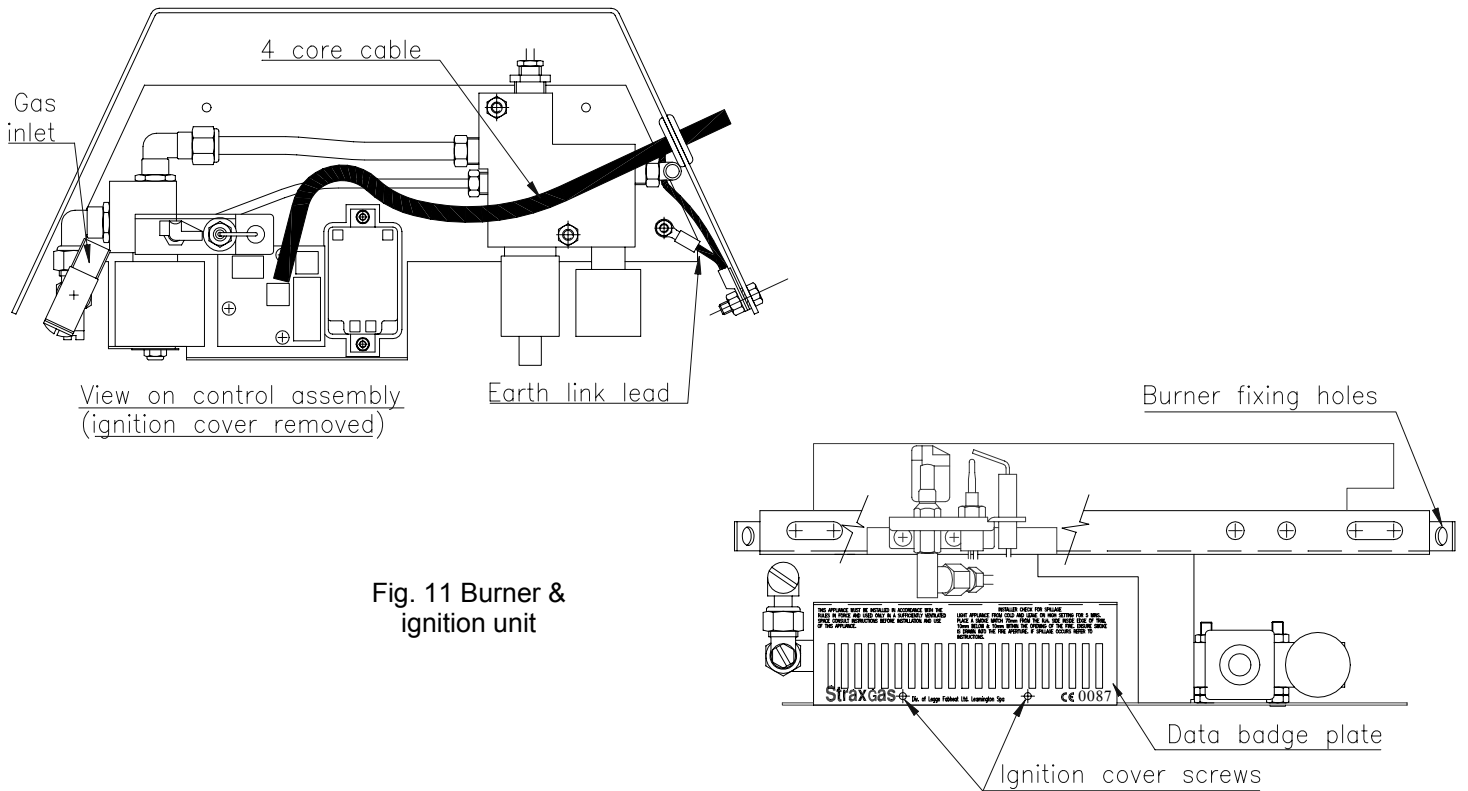

Fig. 11 Burner & ignition unit
4. Remove the ignition unit cover beneath the burner (Fig. 11). Route the 4-core cable as shown and plug into the printed circuit board. Fit the cable grommet into the hole in the side of the fire and replace the ignition unit cover. Do not allow the cable to loop up under the burner.